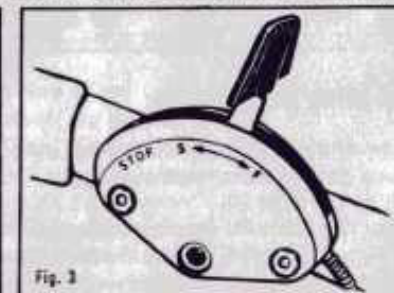

Fig. 3
2. Push throttle lever forward into fast running position marked 'F'. (See Fig. 3)